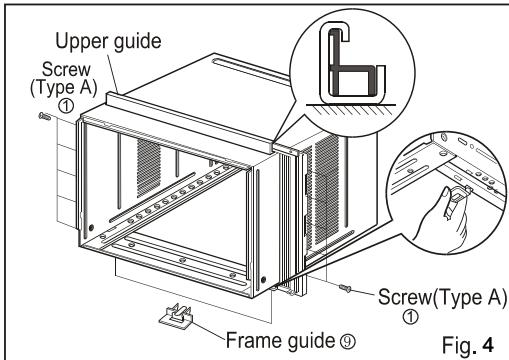

Fig. 4
4. Insert the Frame guides into the bottom of the cabinet. (Fig.4)
5. Insert the Frame Curtain into the Upper Guide and Frame Guides. (Fig.4)
6. Fasten the curtains to the unit with 10 Type A screws. (Fig.4)